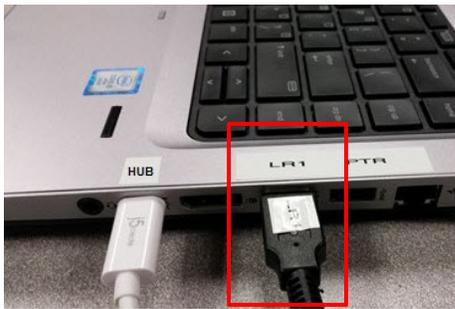

Figure 17: Fingerprint Scanner Connection
- Plug the fingerprint scanner labeled LR1 into the Laptop as shown in Figure 17: Fingerprint Scanner Connection.